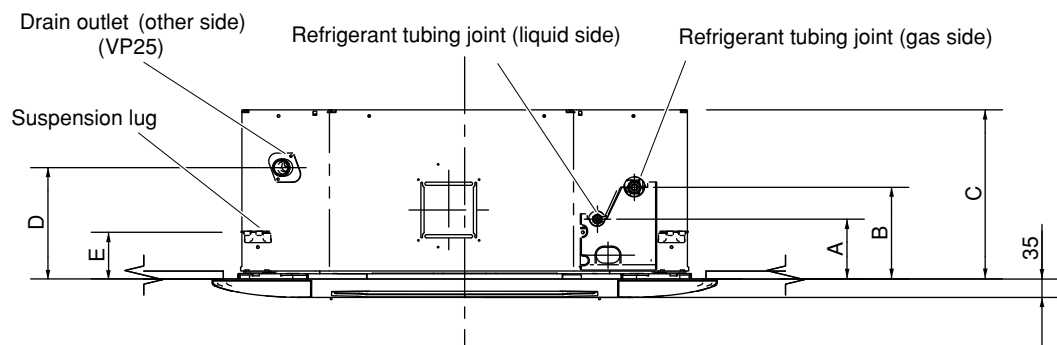

Fig. 3-34
- (3) Determine the pitch of the suspension bolts using the supplied full-scale installation diagram. The diagram and table (Fig. 3-34 and Table 3-3) show the relationship between the positions of the suspension fitting, unit, and panel.